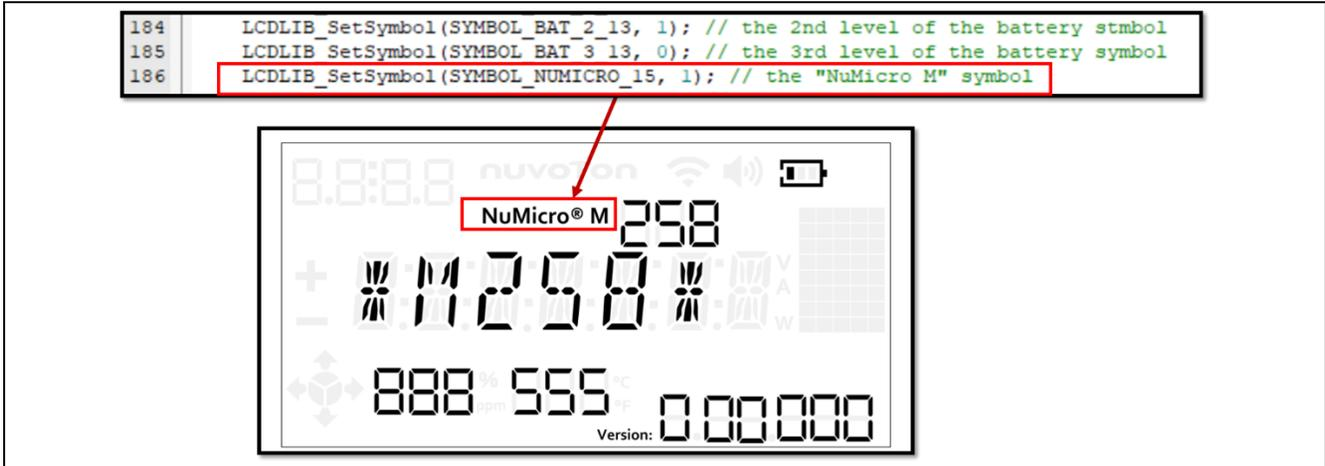

Figure 1-13 Use API to Bring up the Specific Icon
3. Use Nuvoton’s API to bring up the specific icon. The effect is shown as Figure 1-13.